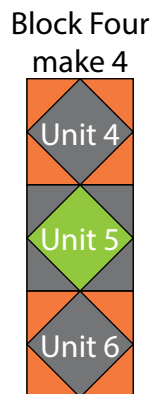

Fig. 18
19. Sew together (1) Unit 4 square, (1) Unit 5 square and (1) Unit 6 square, in that order from top to bottom, to make (1) Block Four strip (Fig. 18). Repeat to make (4) Block Four strips total.